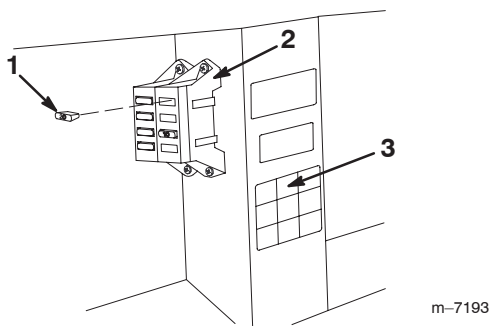

Figure 10
6. Insert the 15-amp fuse in the top slot in the fuse block. Make sure the corresponding wire in the fuse block is connected to the red/black wire in the harness (Fig. 10).